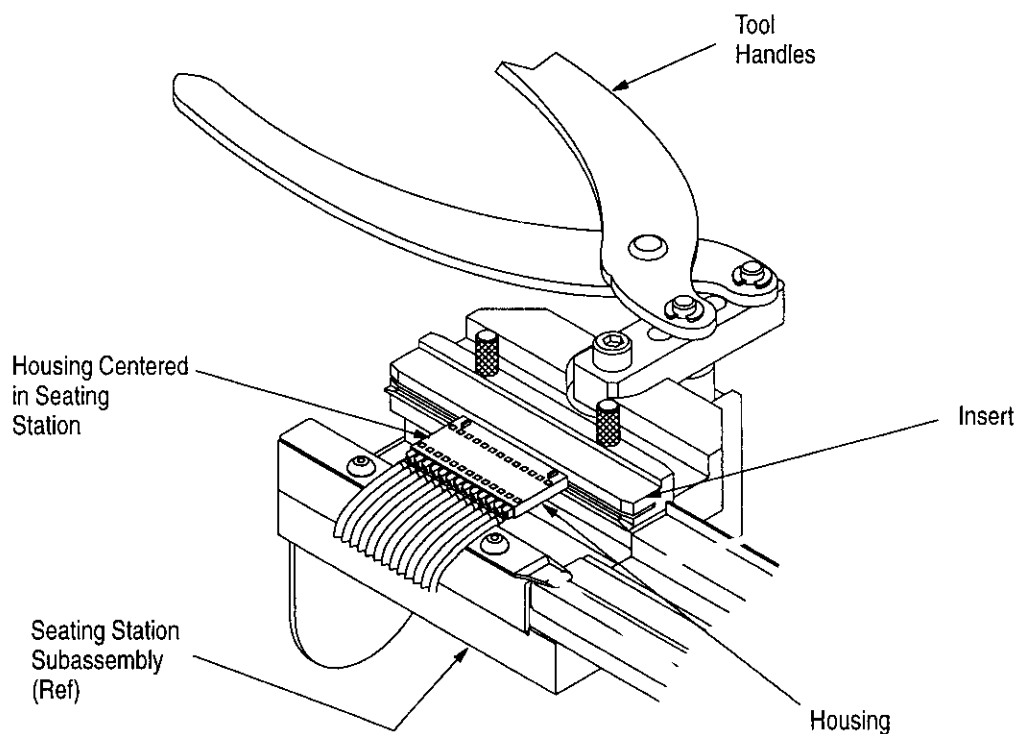

Figure 6
7. Slide terminated housing into the seating station subassembly, as shown in Figure 6. The housing must be centered within the seating station.